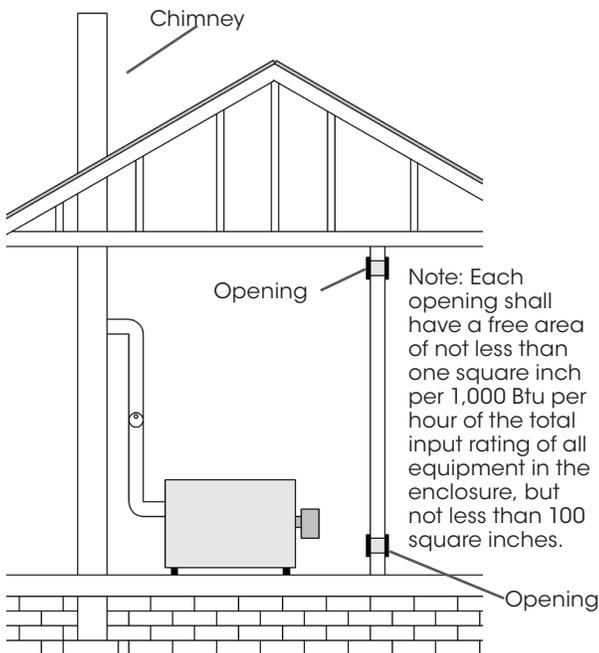

Figure 11 - Air from inside
- a) All air from inside of building: Providing infiltration in the rest of the building is adequate, the confined space may be provided with two permanent openings communicating directly with another room or rooms of sufficient volume that the total volume of all spaces meets the criteria for unconfined space. One opening must be within 12 inches of the bottom of the enclosure. See Figure 11.